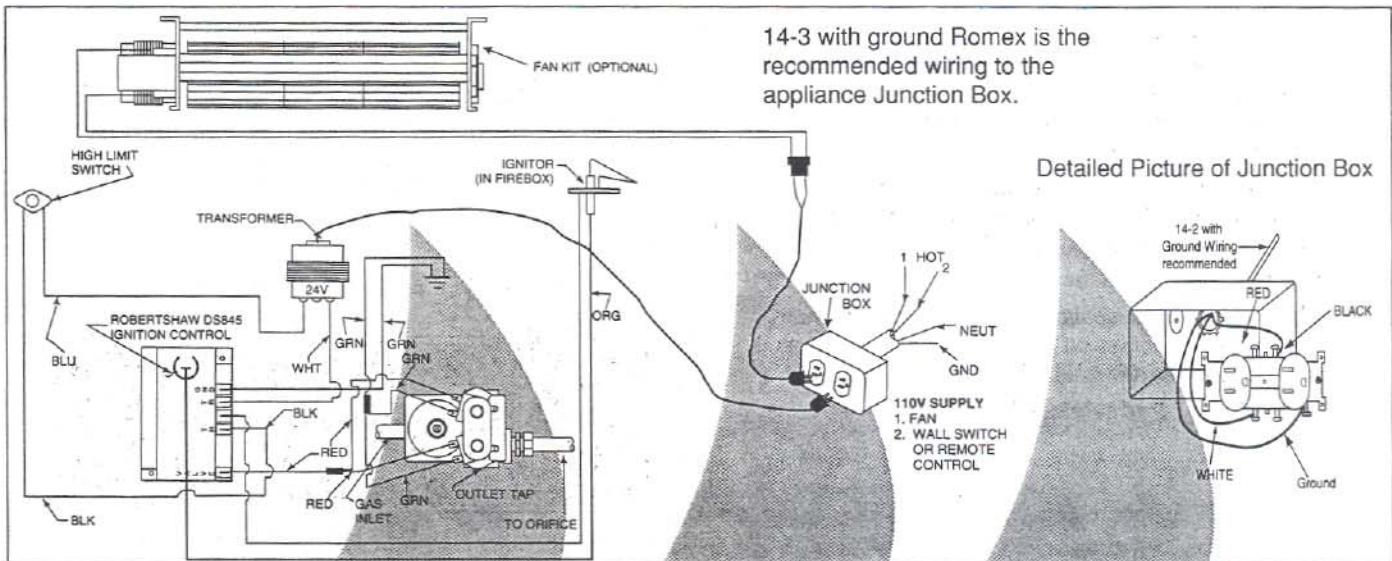

Figure 22 - Electronic Ignition Wiring Diagram
**1. Appliance Requirements.** This appliance requires a 110VAC supply from a wall switch to the appliance junction box for operation. A wiring diagram is shown in Figure 22.